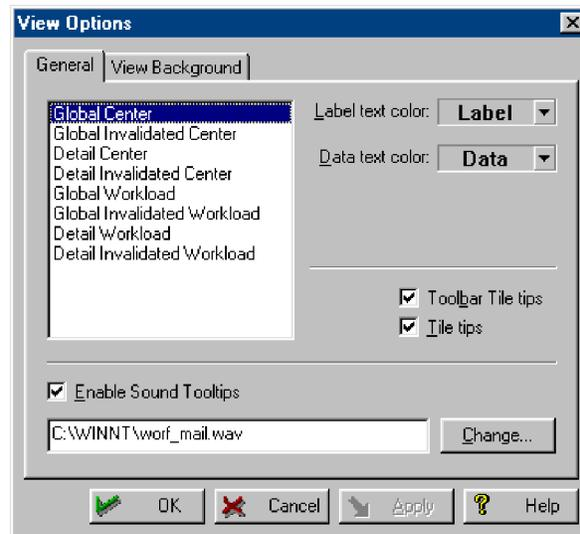

Figure 8.10 *View Options dialog box: General tab*
- 1 On the **Options** menu, click **View Options**. The **View Options** dialog box will display (Figure 8.10).